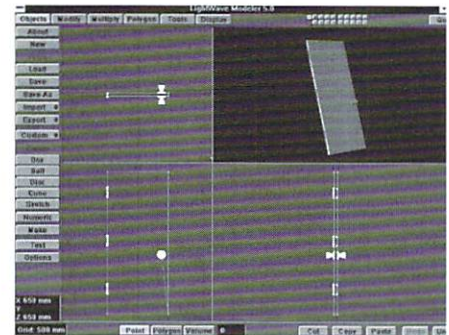

Figure 3
- Next, Cut and Paste this plate into the Hinge layer. To make the other needed hinges, use the Clone Tool to create two clones with a Y-Offset of 725 mm. Finally, Cut and Paste the Hinges into the Door layer, and save the object as Door.lwo (Figure 3).